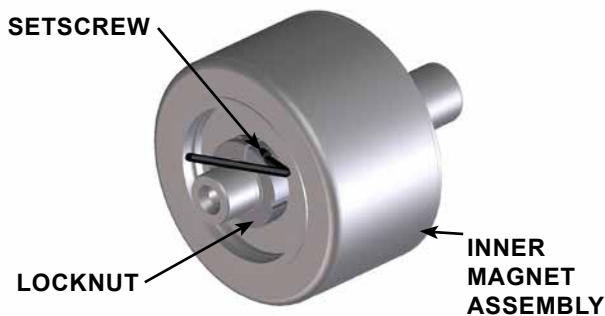

FIGURE 8
9. Visually inspect the outer magnets from the end of the bracket. If removal is necessary, separate the bracket from the motor. Remove the locknut (1), lockwasher (2) and outer bearing spacer collar (4) from the shaft. Slide the outer magnet assembly out of the bracket. Inspect the magnet assembly for damage or wear; replace if needed. If further disassembly of the bracket is required, see **"Disassembly / Assembly of Bracket Bearings"**.
10. Remove the socket head capscrews (54) from the canister (59). If the canister was not drained in Step 1, it will contain liquid. Use care when removing the canister from the pump by pulling it straight off. Inspect the canister bushing (64) for wear. If the canister bushing needs to be replaced, see **"Installation of Bushings"** on page 7.
11. Do not remove the O-ring from the plate adaptor (67) / canister unless it is bad, especially if it is PTFE (derivative) encapsulated. If a new O-ring is required, See **"Pump Assembly"** on page 8.
12. Insert a brass bar into the rotor (36) through a port between two rotor teeth and remove the split locknut (66), see **Figure 8**. Slide the inner magnet assembly off of the shaft. Make sure the outer thrust washer (60) does not come off with the inner magnet assembly. If the thrust washer hits the shaft key (62) it may crack or break. Do not forget this is a very strong magnet. Inspect the magnet assembly for damage or wear; replace if needed. If further disassembly is required, proceed to the next step.